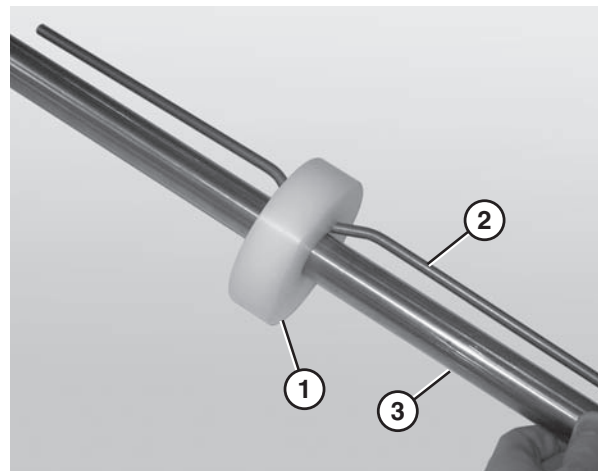

Figure 71
1. Place the idler puck (**Figure 71, item 1**) at the center of the bent retaining bar (**Figure 71, item 2**).
2. Slide the idler puck onto the idler shaft (**Figure 71, item 3**). Make sure to center the idler puck.